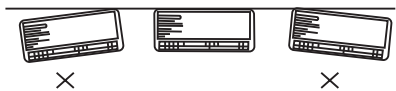

Figure 7
- 1) check with a spirit level that the back cover is installed horizontally. (Figure 7)